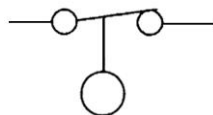

Figure 6-7 Symbol for question 12.
12. Figure 6-7 represents the symbol for a 12._____